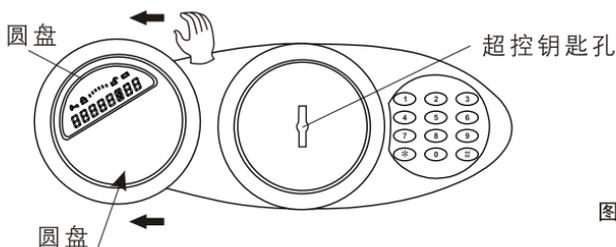

图6
- 按照第7页图6所示，逆时针 ↺ 旋转面板上的圆盘并取下，可看见后面的超控钥匙孔，再按照第4页图3所示，先将超控钥匙插入超控钥匙孔并顺时针 ↻ 转动到位，然后将主钥匙插入第4页图4所示的开启钥匙孔，顺时针 ↻ 转动到位，再顺时针 ↻ 转动执手（或圆形执手）开启保险柜门。
- Turn the LCD mounting disc counterclockwise and remove it from the panel (Figure 6, P.7 in User's Manual). Locate the override keyhole behind the disc. Insert the override key (Figure 3, P.4 in User's Manual) into its keyhole and turn it clockwise to the end, then insert the lock key into the door-opening keyhole (Figure 4, P.4 in User's Manual) and turn it clockwise to the end, turn the handle (or knob) clockwise to open the door.